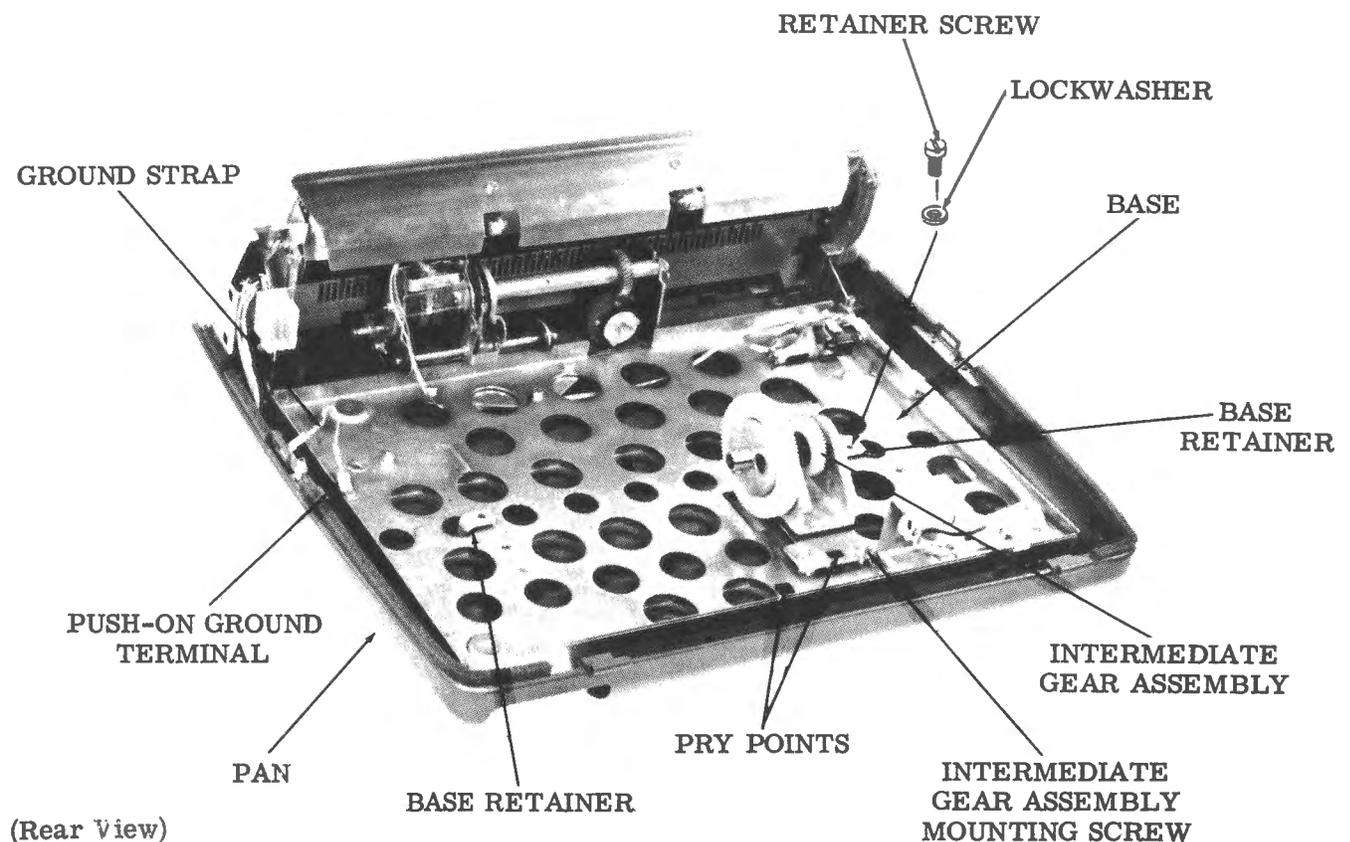

Figure 8 - Keyboard, Control Unit, Reset Mechanism, and Intermediate Gear Assembly
2.13 To remove the base from the typing unit cover and pan, proceed as follows (Figure 8)
2.21 To remove the utility strip from the left compartment in the base of the table, proceed as follows (Figures 8 and 12).